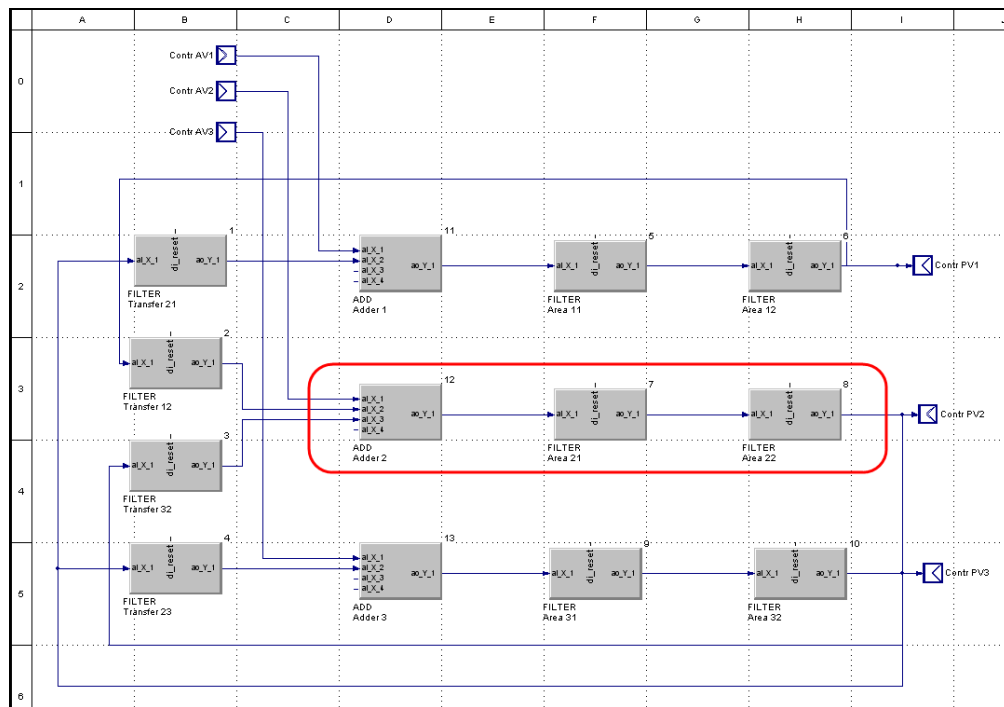

Fig. 317: Practical example: Program block "PROCESS"
- Copy blocks:** Copy the blocks highlighted in the graphic above (Fig. 317) and insert them in the macro. Name the blocks corresponding to the graphic below.